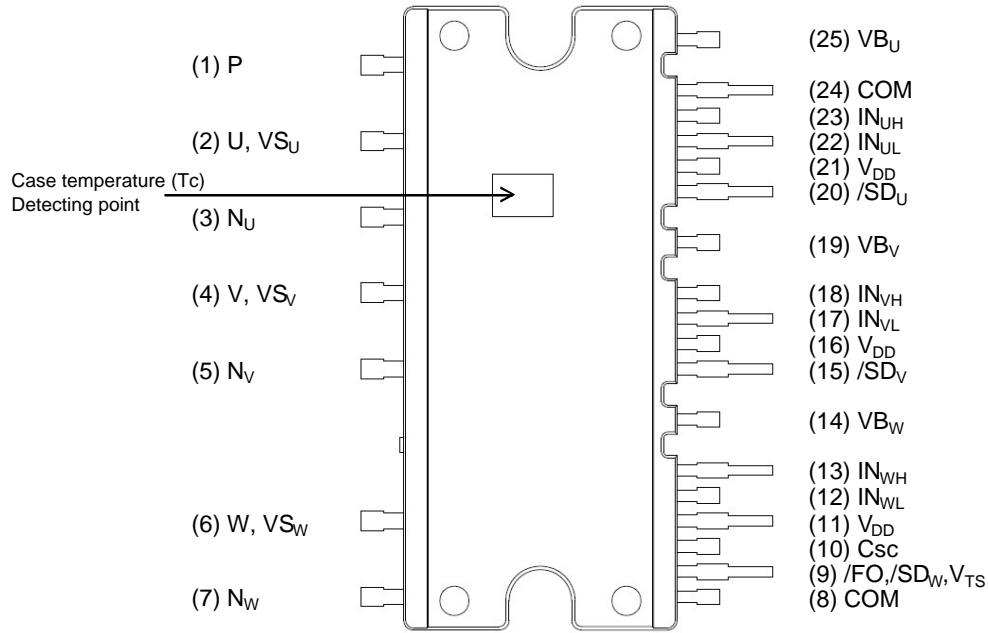

Figure 1. Pin Configuration – Top View
2. For the measurement point of case temperature (T_C), please refer to Figure 1.